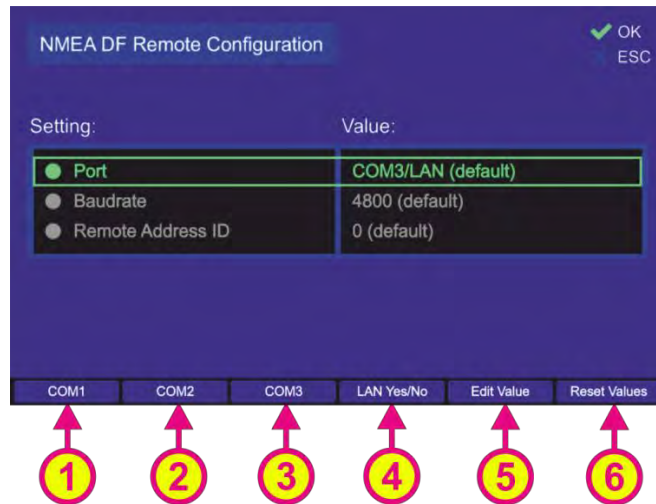

Fig. 141 NMEA DF remote control configuration
Additionally, by choosing the combination “COM3/ LAN”, the NMEA sentences will be also sent via the LAN connection (s. Fig. 141, position 3).
Following sub-menu will appear (s. Fig. 141).
Pressing the hotkey “Reset Values” (s. Fig. 141, position 6) will set all menu items to default values.
- Pressing the hotkey “LAN Yes/No” (s. Fig. 141, position 4) will turn on the additional communication over LAN (pressing this hotkey again will turn the LAN communication off, see also 6.4.4.3).
- Pressing the hotkey “Edit Value” while “Port” is marked (s. Fig. 141), opens the following sub-dialog (s. Fig. 142).
This setting will only set the communication port. Additional transmitting the NMEA sentences over LAN should be set in the top level menu (s. Fig. 141, position 4).
- To change the baud rate, press the hotkey “Edit Value” while the menu item “Baudrate” is marked (s. Fig. 141). The corresponding sub-dialog will be opened (s. Fig. 143).
- To change this Setting, press the hotkey “Edit Value” while the menu item “Remote Address ID” is marked (s. Fig. 141). The corresponding sub-dialog will be opened (s. Fig. 143).